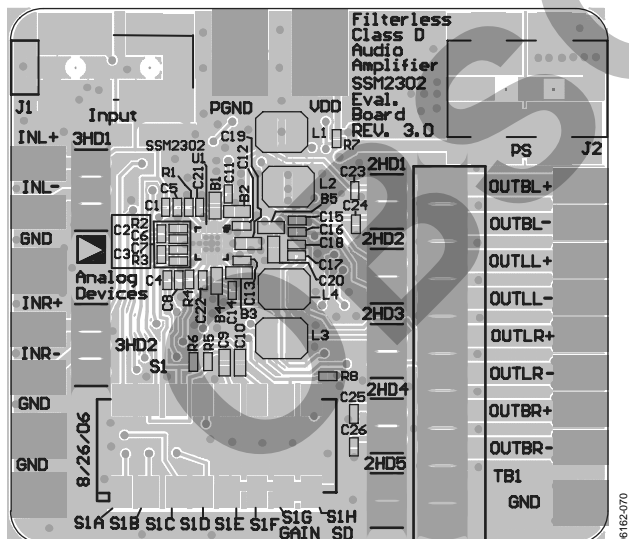
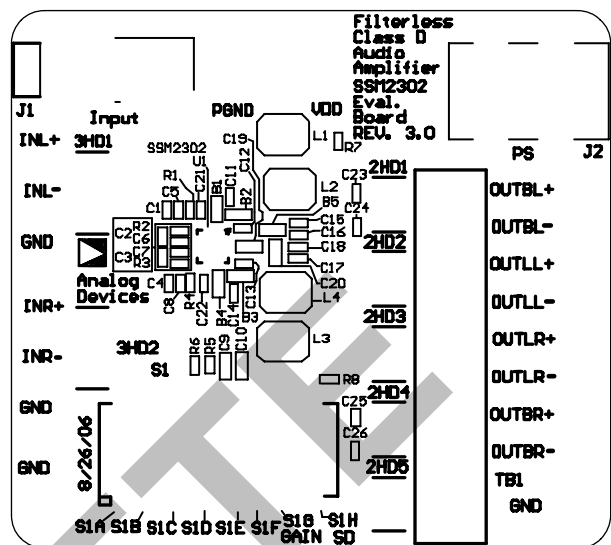
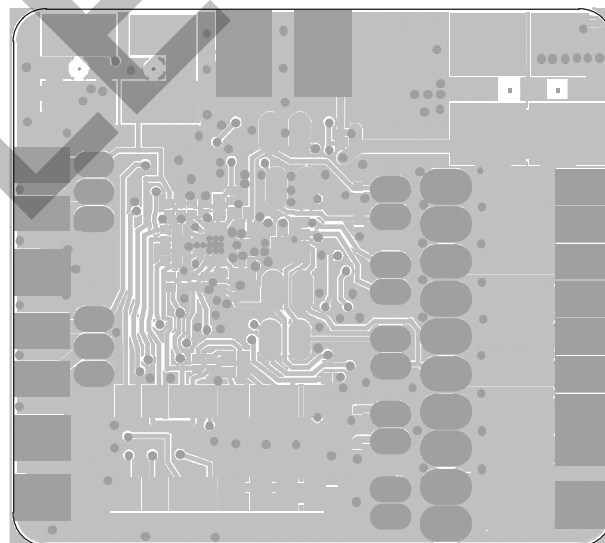
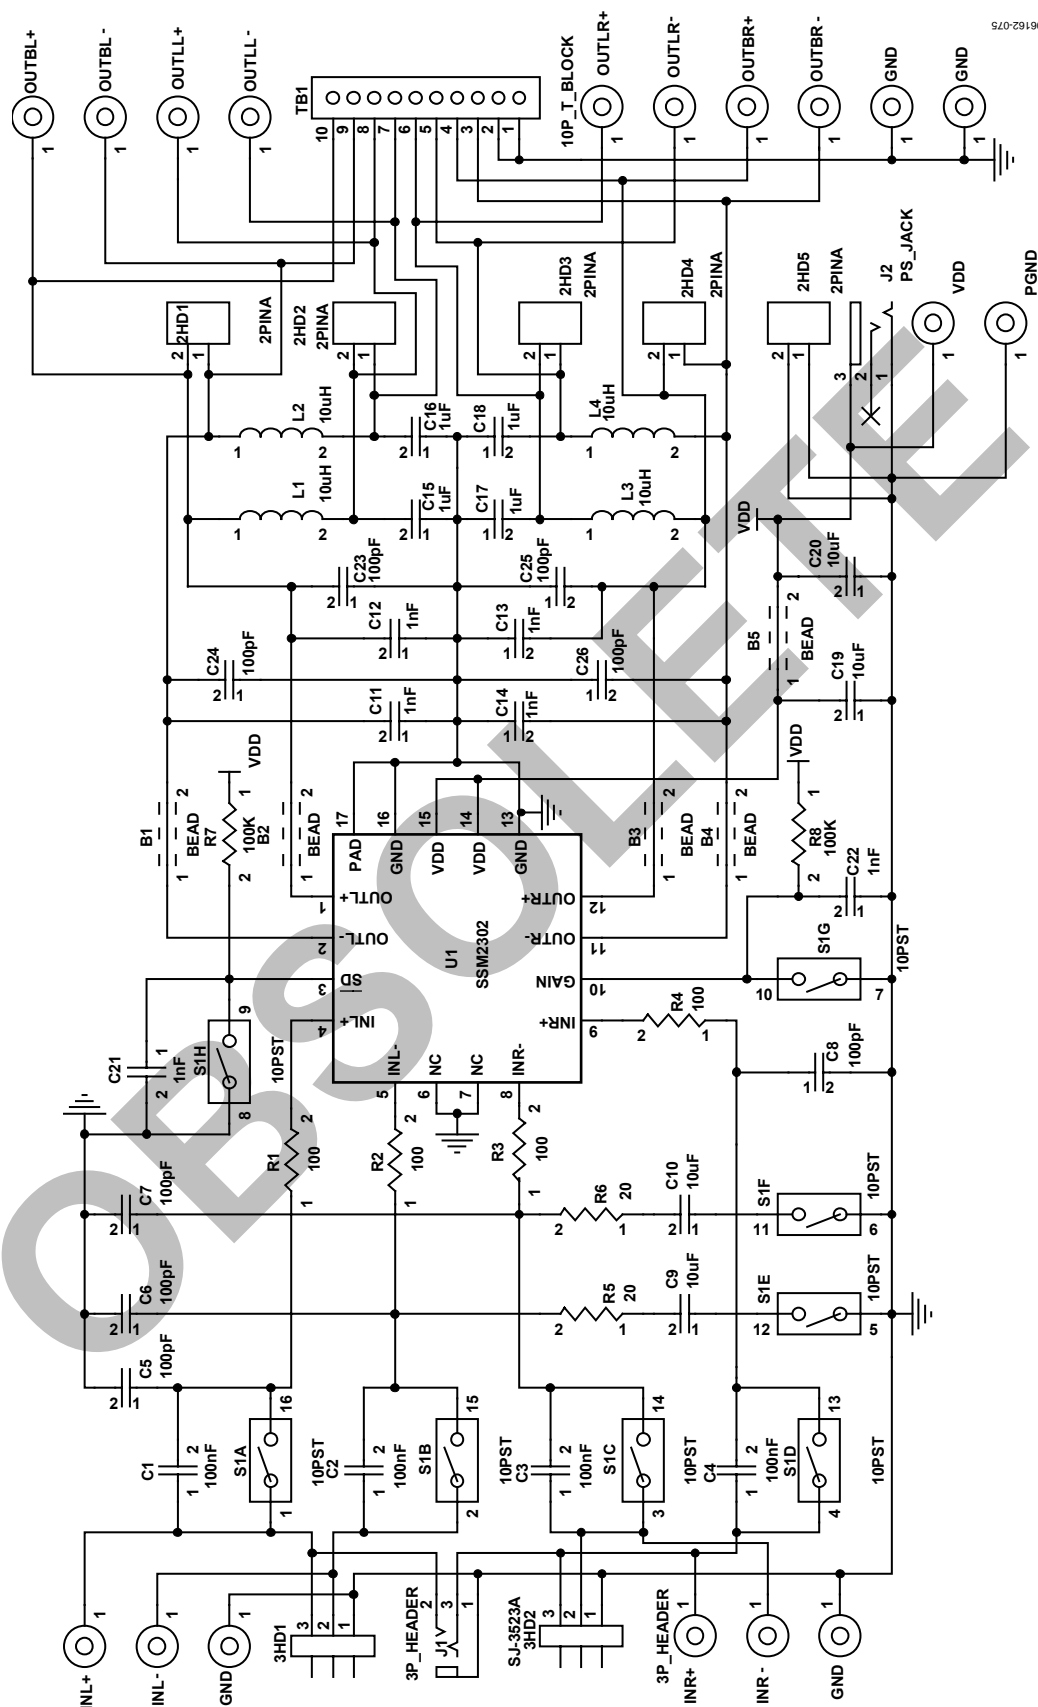

Figure 41. Top Silkscreen Layer with Other Top Layers
Figure 42. Top Silkscreen
Figure 43. Top Layers Without Top Screen Layer
Figure 46. Schematic of SSM2304 Evaluation Board Rev. 3.0
The silkscreen layer of the evaluation board is shown in Figure 41 with other top layers, including top copper, top solder mask, and multilayer (vias).
Figure 42 shows the top silkscreen layer only. There is no component in the bottom side; therefore, there is no bottom silkscreen layer.
Figure 43 shows the top layers without the silkscreen layer.
The schematic is shown in Figure 46.
On the upper left corner of the schematic shown in Figure 46, there is an audio stereo jack connector (3.5 mm), J1. This jack is compatible with standard stereo audio signals. It uses a conventional audio stereo signal connector/cable to obtain audio signals from common appliances, such as DVD players, personal computers, TVs, and so on. Because this connector only provides single-ended audio signals, turn Switches S1E and S1F to the upper positions when this input connector is utilized to ac short circuit the negative input ports to ground (see the schematic in Figure 46).
All the output ports are located on the right side of the board and marked with the corresponding names. Please see the legend on the board in Figure 42 and the schematic in Figure 46.
1. Place nine vias onto the thermal pad of the amplifier. The outer diameter of the vias should be 0.5 mm and the inner diameter should be 0.33 mm. Use a PCB area of at least 2 cm × 2 cm or an equivalent area on the back side of the PCB layer as the heat sink (see Figure 41, Figure 42, and Figure 43). If there are internal layers available within the PCB, allocate an area as large as possible for the ground plane(s) and connect these vias to the plane(s).
8. Decouple the input port nodes and the digital pins, Pins 3, 4, 5, 8, 9, and 10, with small capacitors, such as 100 pF. These capacitors are not necessary, but can lower the EMI from these pins. The ground terminals of these capacitors should be connected to the chip ground as close as possible (see Figure 41, Figure 42, and Figure 43).
10. Connect the ground pins, Pins 6, 7, 13, and 16, to the thermal pad and place grounding vias as shown in Figure 41, Figure 42, and Figure 43.